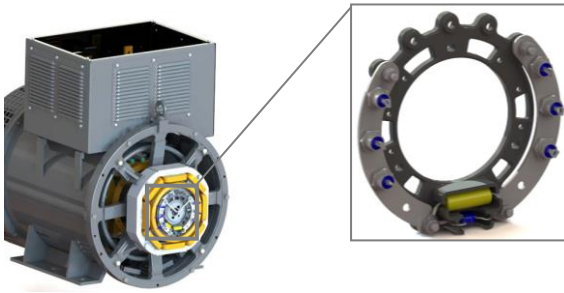

Figure 14.19: Diodes wheel
2. Remove the diodes wheel, according to Figure 14.19.